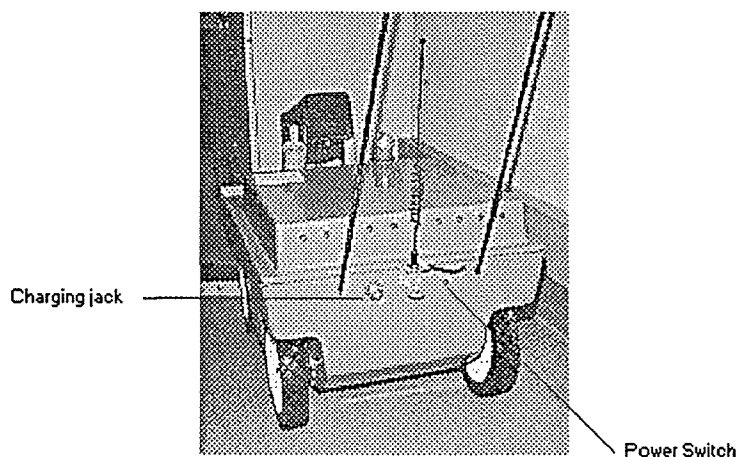

Fig. 5.10 Rear view of robot
5.3.2. To charge the battery, make sure that the AHSR vehicle's power switch is turned off on the back panel. Plug the battery charger cable into the receptacle on the back of the AHSR vehicle. The power switch and charger jack are shown in Fig. 5.10.